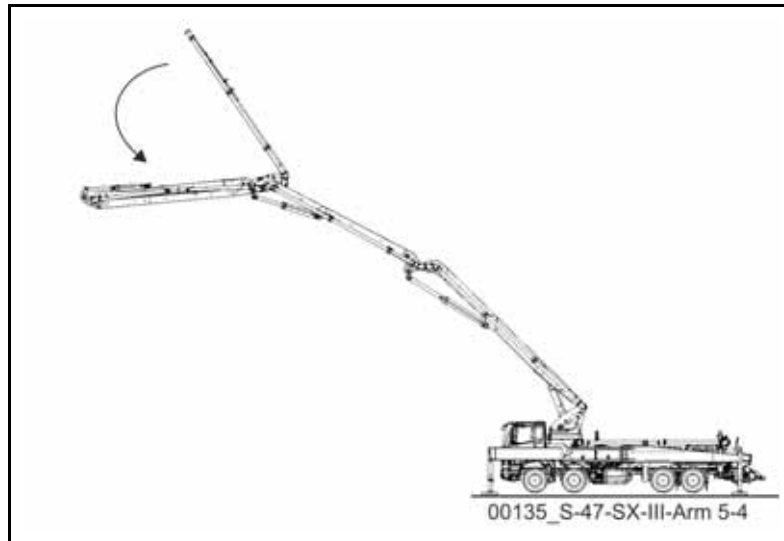

Fig. 273
- Once placing boom section 4 is lying entirely on placing boom section 3, you can fold in placing boom section 5 (**Fig. 273**)